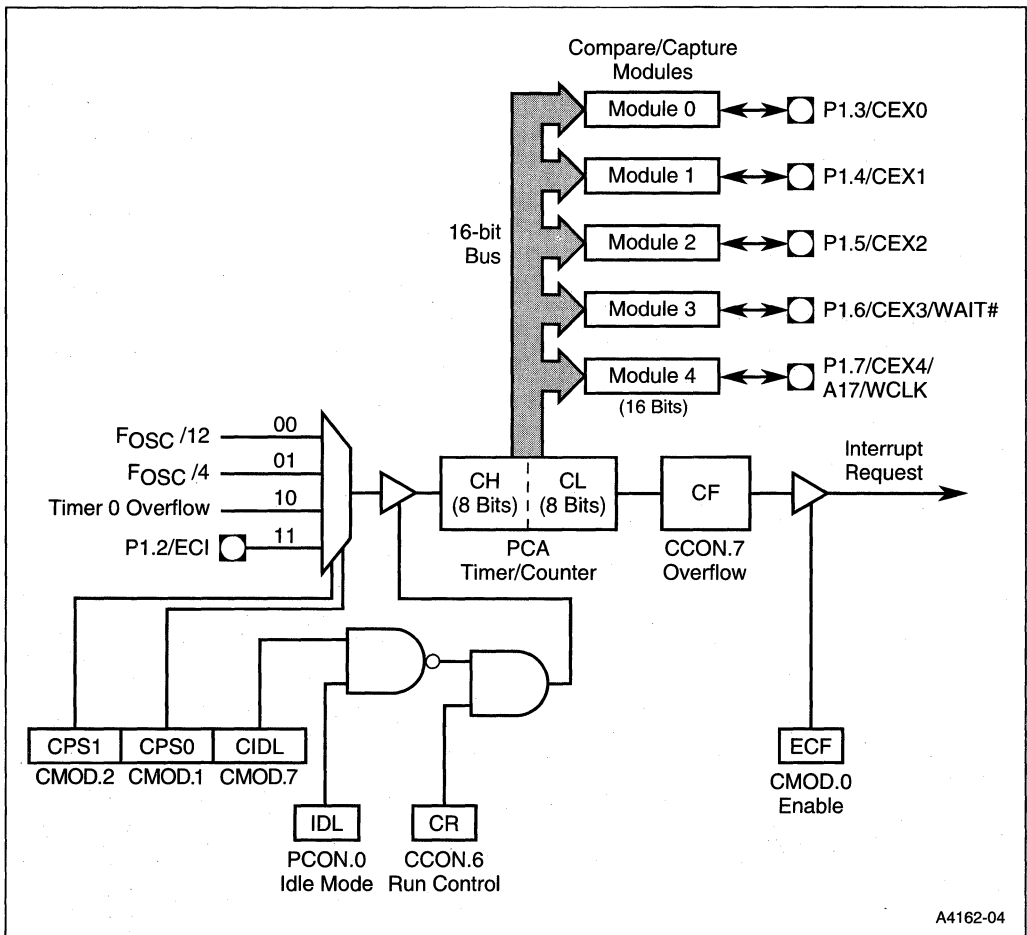
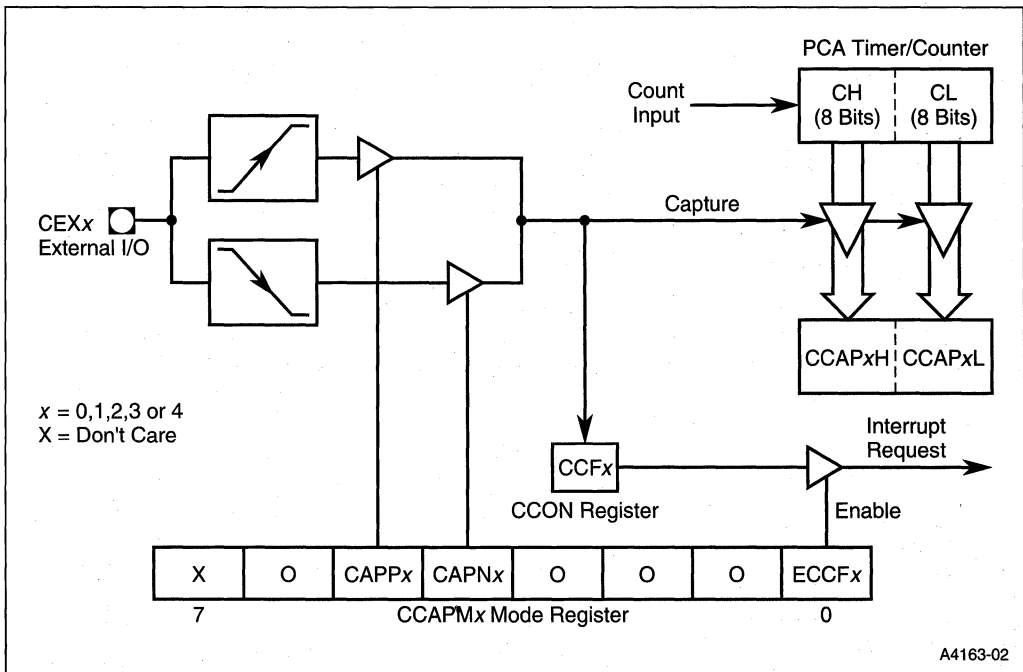

Figure 11-1. Programmable Counter Array†
Figure 11-2. PCA 16-bit Capture Mode
The programmable counter array (PCA) consists of a 16-bit timer/counter and five 16-bit compare/capture modules. The timer/counter serves as a common time base and event counter for the compare/capture modules, distributing the current count to the modules by means of a 16-bit bus. A special function register (SFR) pair, CH/CL, maintains the count in the timer/counter, while five SFR pairs, CCAPxH/CCAPxL, store values for the modules (see Figure 11-1). Additional SFRs provide control and mode select functions as follows:
The PCA timer/counter and the five compare/capture modules share a single interrupt vector. The EC bit in the IEN0 special function register is a global interrupt enable for the PCA. Capture events, compare events in some modes, and PCA timer/counter overflows set flags in the CCON register. Setting the overflow flag (CF) generates a PCA interrupt request if the PCA timer/counter interrupt enable bit (ECF) in the CMOD register is set (Figure 11-1). Setting a compare/capture flag (CCF_x) generates a PCA interrupt request if the ECCF_x interrupt enable bit in the corresponding CCAPM_x register is set (Figures 11-2 and 11-3). For a description of the 8X930Ax interrupt system see Chapter 6, "Interrupt System."
Figure 11-1 depicts the basic logic of the timer/counter portion of the PCA. The CH/CL special function register pair operates as a 16-bit timer/counter. The selected input increments the CL (low byte) register. When CL overflows, the CH (high byte) register increments after two oscillator periods; when CH overflows it sets the PCA overflow flag (CF in the CCON register) generating a PCA interrupt request if the ECF bit in the CMOD register is set.
Setting the run control bit (CR in the CCON register) turns the PCA timer/counter on, if the output of the NAND gate (Figure 11-1) equals logic 1. The PCA timer/counter continues to operate during idle mode unless the CIDL bit of the CMOD register is set. The CPU can read the contents of the CH and CL registers at any time. However, writing to them is inhibited while they are counting (i.e., when the CR bit is set).
The logical configuration of a compare/capture module depends on its mode of operation (Figures 11-2 through 11-5). Each module can be independently programmed for operation in any of the following modes:
The capture mode (Figure 11-2) provides the PCA with the ability to measure periods, pulse widths, duty cycles, and phase differences at up to five separate inputs. External I/O pins CEX0 through CEX4 are sampled for signal transitions (positive and/or negative as specified). When a compare/capture module programmed for the capture mode detects the specified transition, it captures the PCA timer/counter value. This records the time at which an external event is detected, with a resolution equal to the timer/counter clock period.